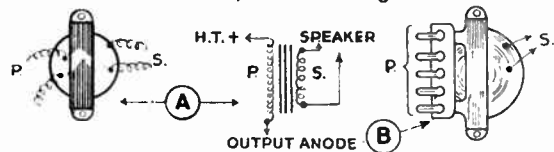

Fig. 3—Loudspeaker transformers
You can make the periscope any height—as high as a house if you like—but the taller they are [the bulkier they are to carry, and the more tiring to hold. In Fig. 2 the artist has used a conventional 'break'. This does not mean that the material is to be cut in two parts, horizontally, but merely that, to save space, the drawing has been shortened. The case, as made up, will appear as in Fig. 3. 2ft. high is a suitable size, and the mirrors can be $3\frac{1}{2}$ ins. by 2 ins. Any glazier will cut these for you quite cheaply.
Moving coil speakers cannot have many turns on the speech coil. Their impedance is consequently low and an output or speaker transformer must be used to couple them to the output valve in the receiver, as shown at (A) in Fig. 3.
If no alternatives are available, as at (A) in Fig. 3, the transformer is intended for one particular class of output valve. It will work with others, but not quite as well as would a transformer with the correct primary impedance. A tapped transformer is therefore usually much more useful for the experimenter.